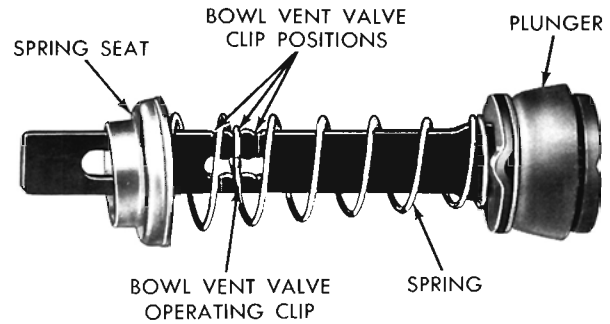

Fig. 11—Accelerator Pump Assembly
- (1) Assemble the pump plunger, spring and spring seat, as shown in (Fig. 11). Slide plunger shaft through opening in air horn. Install bowl vent valve over plunger shaft, then engage with pump rocker arm.